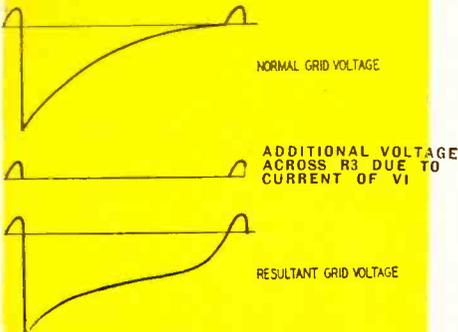

Fig. 5—Obtaining desired waveform.
3. The feedback is arranged to provide for a fast rise of current through V1 near the end of the cycle to modify the grid voltage rise on V2 (Fig. 5). As might be expected, with the addition of V1, component values have to be changed to maintain the correct frequency.